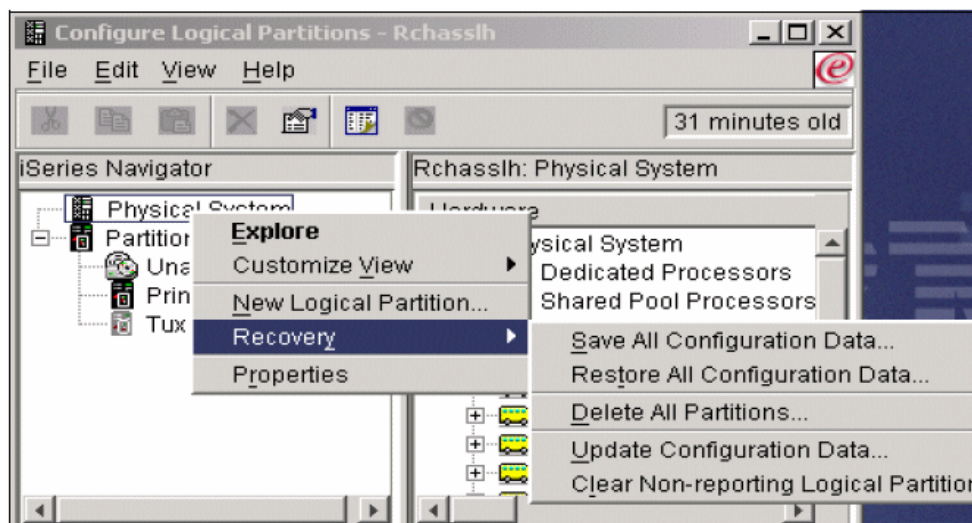

Figure C-5 System i Navigator Panel
- e. Right-click **Physical System** and select **Recovery**. Then select **Save All Configuration Data** as shown in Figure C-5.